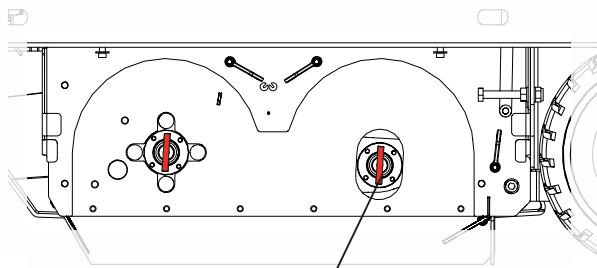
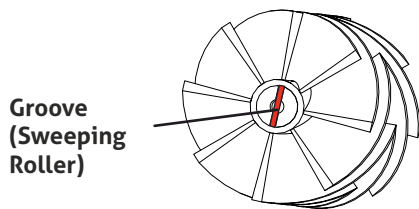

Fig. 53 Tension rod
Fig. 54
- Respectively turn the sweeping drum until the synchronisation mandrel of the rear sweeping drum blade (Fig. 53) fits into the groove of the sweeping drum (Fig. 54), and push the sweeping drum in as much as possible.